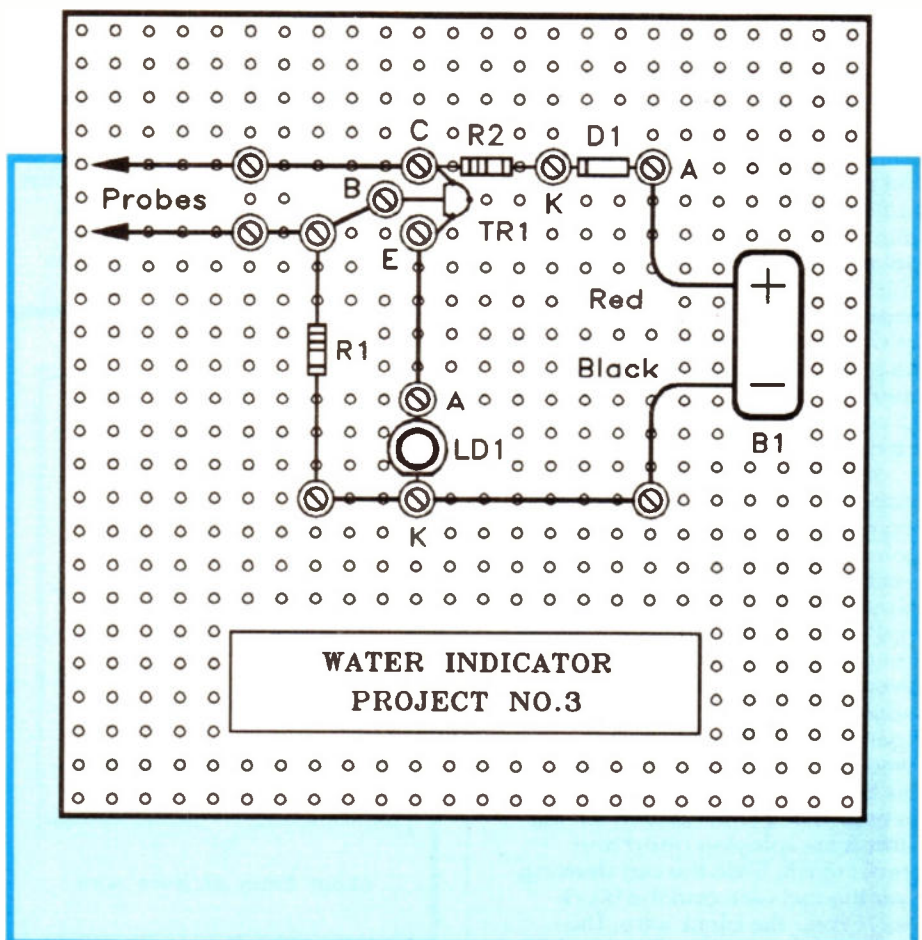

Figure 2. The layout of the components.
1. Cut out the component guide-sheet provided with the kit (which is a full-size copy of Figure 2), and glue it to the top of the plastic board. Paper glue or gum should be okay. Do not soak the paper with glue, a few small 'dabs' will do.